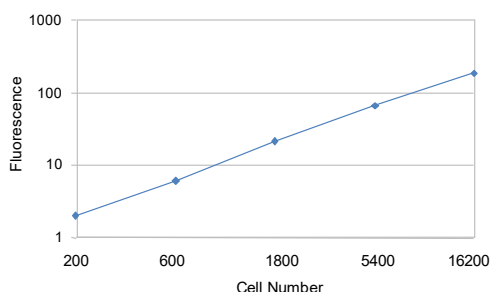

Figure 1. Quantitation of HeLa cell numbers using the Calcein AM Cell Viability Assay Kit. Cells were plated in 96-wells 24 hours before assay.
Calcein AM is a widely used green fluorescent cell marker. Calcein AM is membrane-permeable and can be introduced into cells via incubation. Once inside the cells, non-fluorescent calcein AM is hydrolyzed by cellular esterases into the green fluorescent dye calcein. Calcein is highly negatively charged and is retained in the cytoplasm of healthy cells. Calcein AM has been used for studies of cell membrane integrity (1) and for long-term cell tracing due to its lack of cellular toxicity (2-3). It has also been used for quantifying viable cell numbers (2-4). The Calcein AM Cell Viability Assay is an end-point assay for cell viability to quantify live cell numbers. The fluorescent signal generated from the assay is proportional to the number of living cells in the sample (Figure 1).